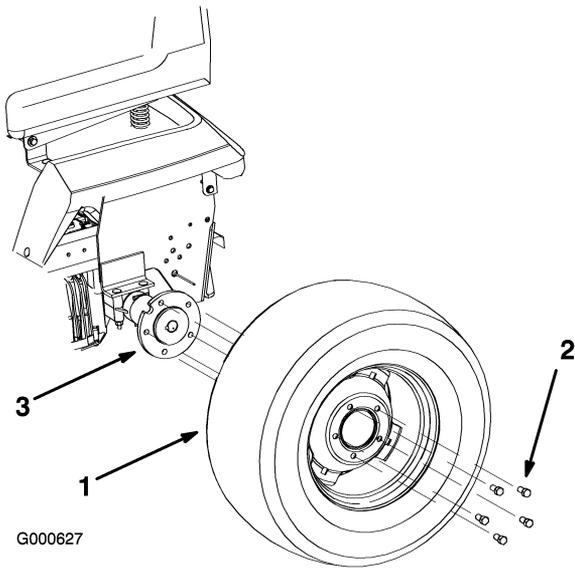

Figure 8
1. Install the rear wheel onto the wheel hub with the valve stem to the inside (Figure 8).